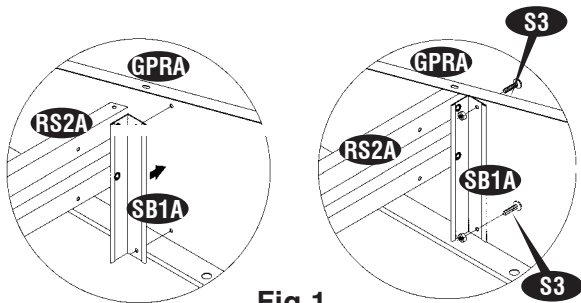

Fig.1
4. Place the Gable panel (GPRA) & (GPLA) on top of the Top angle (ABLA) & (ABRA). See fig. 1. Insert the Gable Panel into the Top angle (AS1A) & (AS2A). Align the holes with Top angle